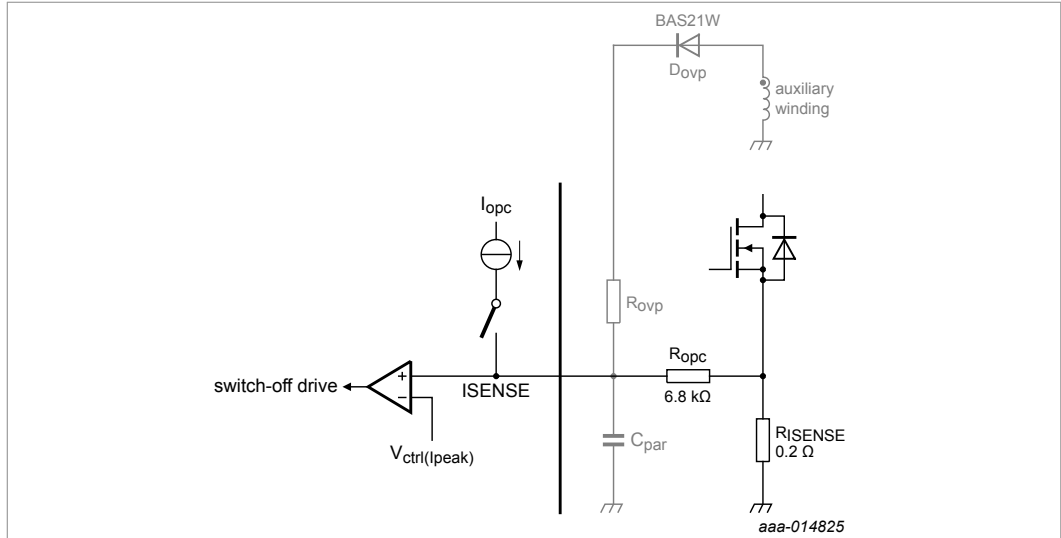

Figure 13. High/low line compensation ISENSE pin
The high/low line compensation is realized by forcing a current I_{opc} (overpower correction) out of the ISENSE pin (see Figure 13).
The value of resistor R_{opc} determines the level of compensation. With the R_{opc} value used in the schematic (6.8 kΩ; see Figure 13), the correction of the voltage on the ISENSE pin is 41 mV at 365 V (DC) bulk voltage (264 V (AC)). This correction equals about 10 % of the 400 mV $V_{th(sense)opp}$.